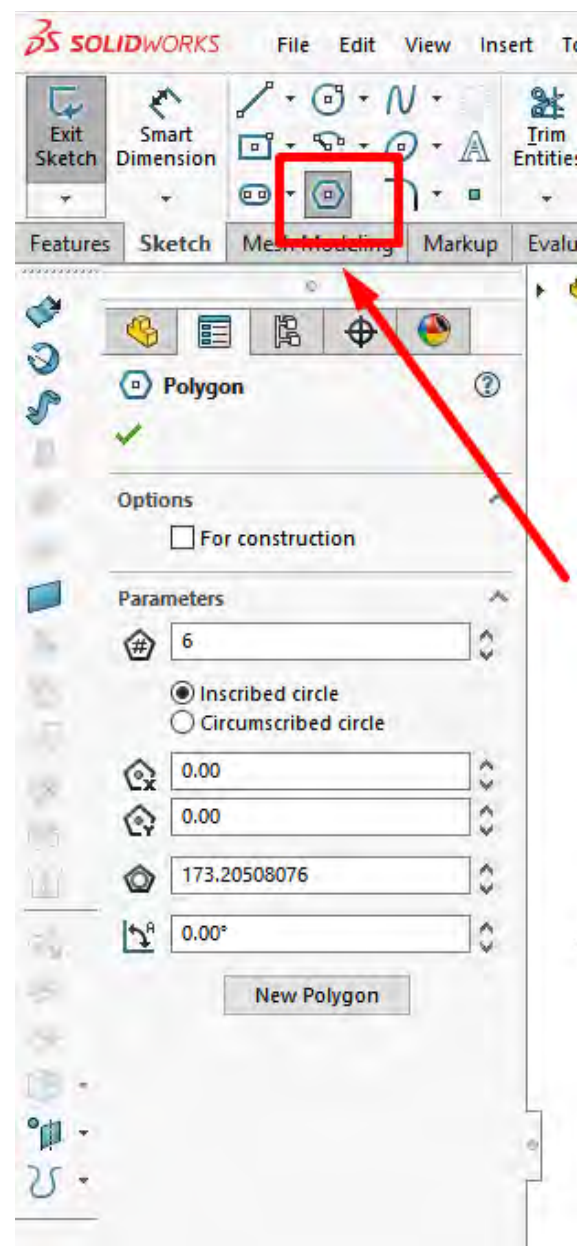

Fig. 8
- **Polygon:** Use to construct elements with many sides if the task requires it (Fig. 8).